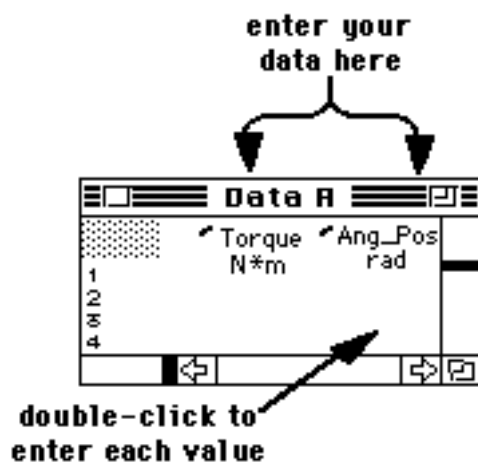

Figure 4. Table for entering the torque and angular position for Activity 1
- Select **Data A Table** under the **Windows** menu. You should see a new window labeled "**Data A**" similar to that shown in Figure 4. Enter numerical data from Table 1 directly into the Data A table in the spaces shown.